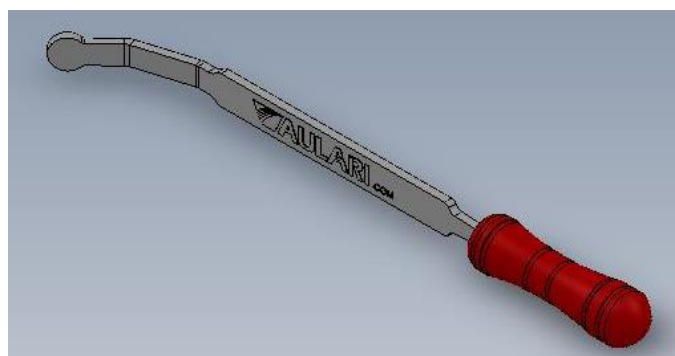

Figure 3
8. Make regular visual inspection of the distribution system, metering shaft and air box. Clean the metering roll splines, if necessary, with the scraper designed for this purpose [Figure 3].
Keep the flutes of the metering roller clean of residue during use [Figure 4B]. The accumulation of fertilizer on the flutes will effectively reduce the amount of fertilizer applied to the field. Use scraper provides for this purpose for maintenance [Figure 3].